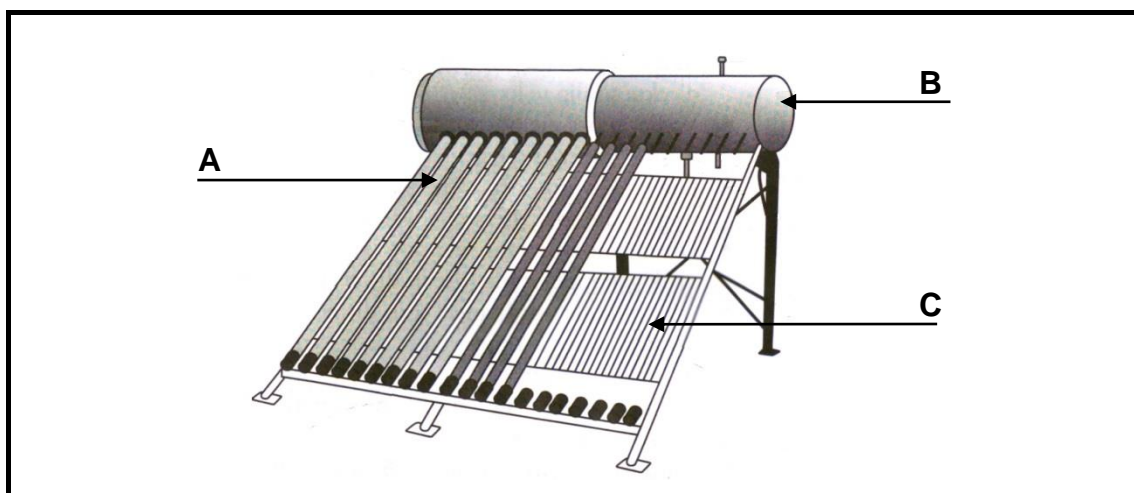

FIGURE 4.9
4.9 Answer the following questions with regard to the solar geyser in FIGURE 4.9.